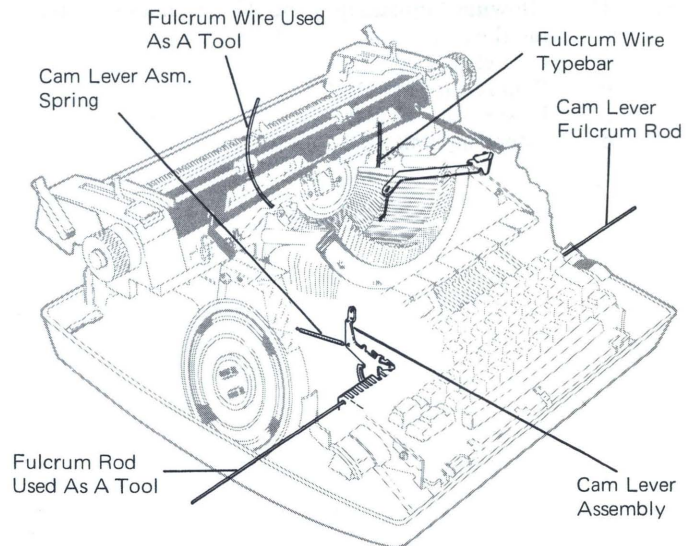

Figure 12 – Letter Cam Lever Removal
3. Insert another fulcrum wire to the proper place and drop the cam lever which is to be removed (Figure 12).